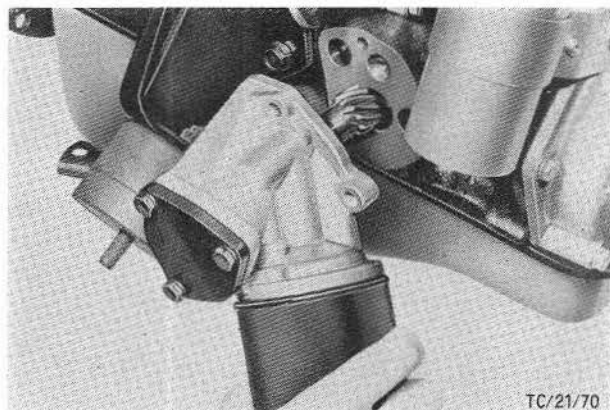

Fig. 57. Fit oil pump.
60. Fit oil pump complete with gasket and torque bolts as specified in Technical Data, Fig. 57.